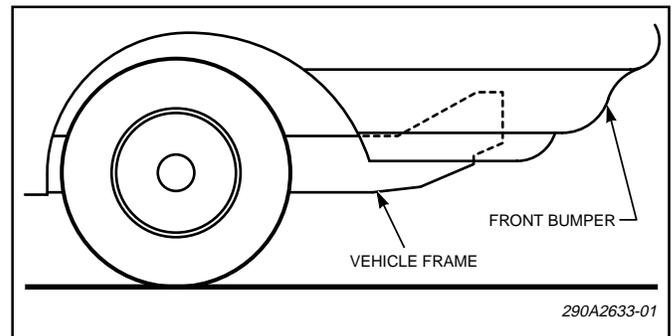

Figure 1.
1. See figure 1. Locate the frame on the vehicle's passenger side forward of the front wheel well.